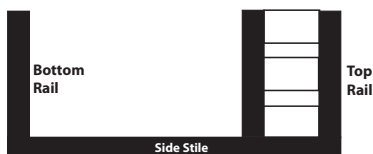
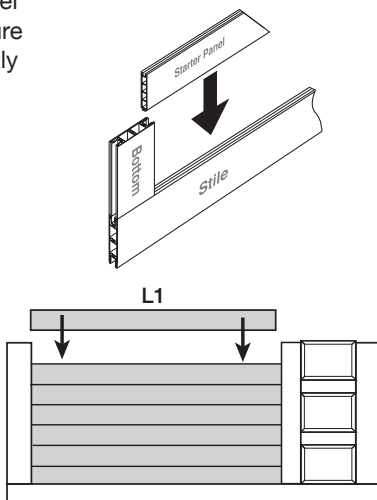

Figure 8 Starter Panel
Figure 8A
Take the starter panel (J1) and slide into the door frame below the transom section. See Figure 8. Make sure it fits snug into the stile channel. Gently tap into place with the rubber mallet if necessary. Repeat with the remaining panels (H), making sure the tongue sides of the panels are inserted first. End panel will be the last panel (L1). See Figure 8A. Make sure the panels fit snugly and gently tap if necessary. Refer to Door overview for layout.